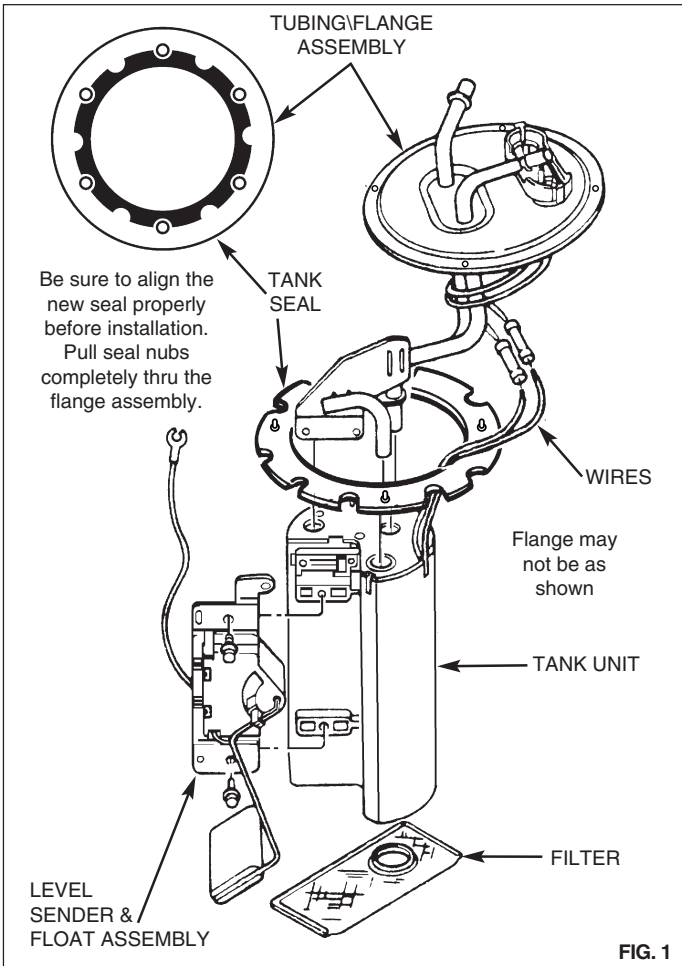

FIG. 1
(Fig. 1)
B) Install the new Nub style tank seal onto the tubing/flange assembly. Be sure to install the seal in the proper orientation. Pull seal nubs completely thru the flange assembly. (See Fig. 1)